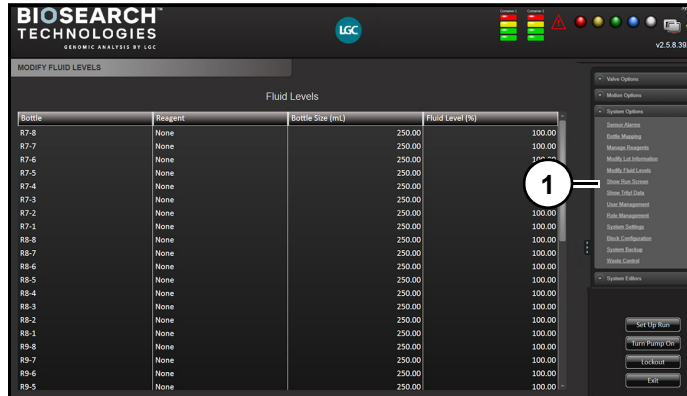

Figure 54
Modify Fluid Levels (1) (Figure 54) is used to track fluid levels. Bottle size can be entered, and after each run, user can manually subtract amount used in previous run in terms of percentage loss. Helps keep track of chemical consumption and ensure user checks reagent levels to prevent failed runs due to insufficient chemicals.